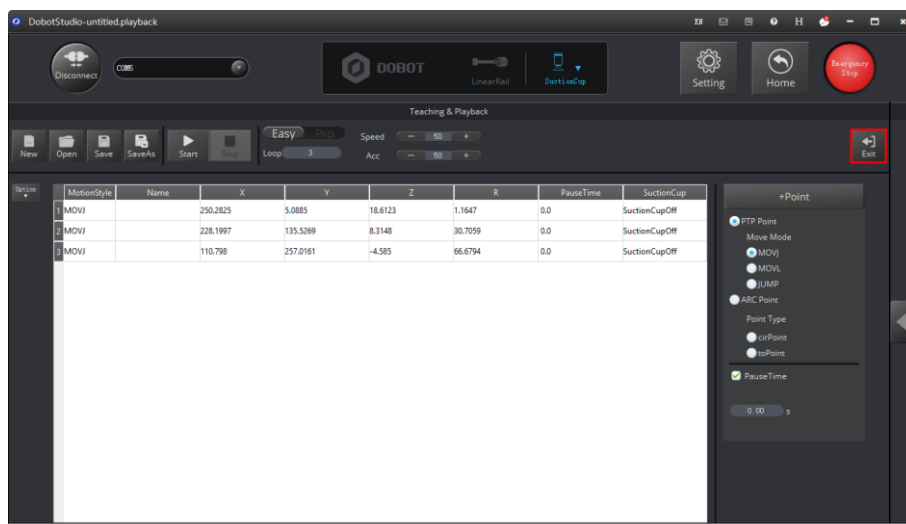

Figure 2.26 Click Exit
- Click  to exit the **Teaching & Playback** page, as shown in Figure 2.26.